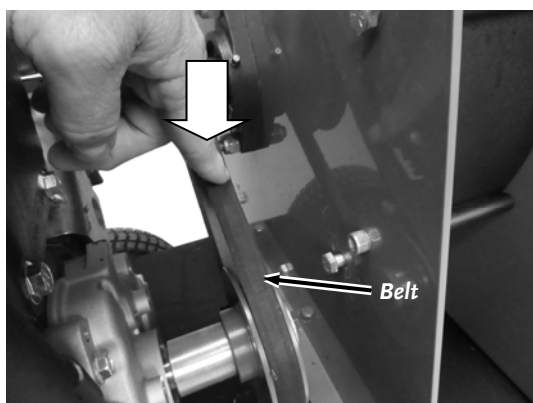

Figure 16
2. Press down on belt with a finger to remove slack (**Figure 16**). This should take about 3-5 pounds of force. The belt should move 1/4" to 1/2" when tensioned properly. If the belt deflection is not within this range, follow Steps 3-7 to adjust the belt tension.